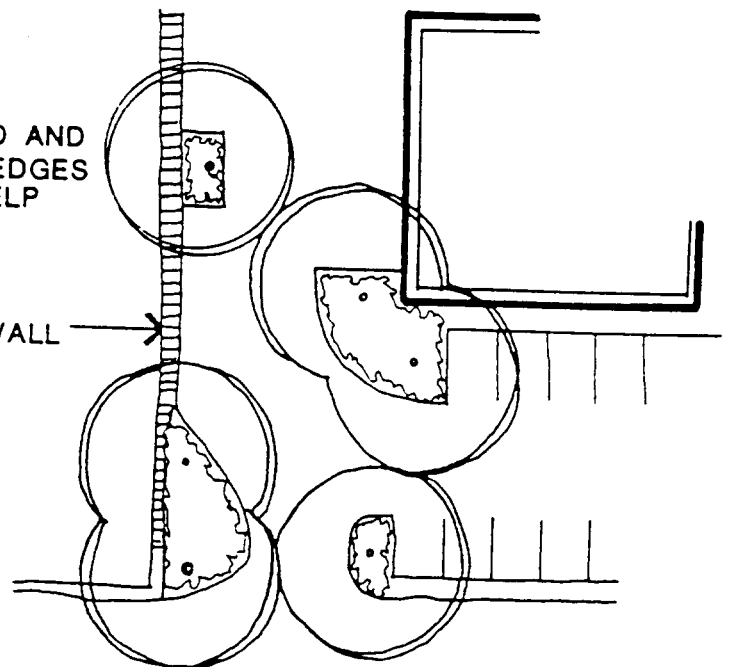

FIGURE 8
- Service facilities should be screened from the remainder of the project, adjacent land uses and major thoroughfares. Extended wing walls from the building may be used to screen service areas. When used, these walls may be of solid construction if lighted on both sides, or a minimum of 30% of open construction if lighted on only one side. A combination of landscaping and screening walls may also be used. (See Figure 8.)